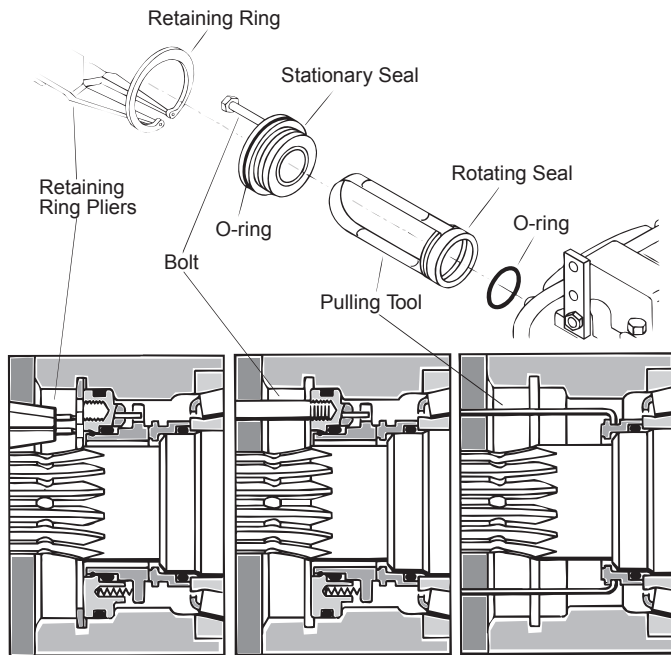

Figure 1
- 5 Use the special pulling tool, Owatonna Tool Co. P/N CAS 1844, to remove the rotating seal, see figure 1. If the special tool is not available pull out the rotating seal with a wire bent to the shape of the puller.